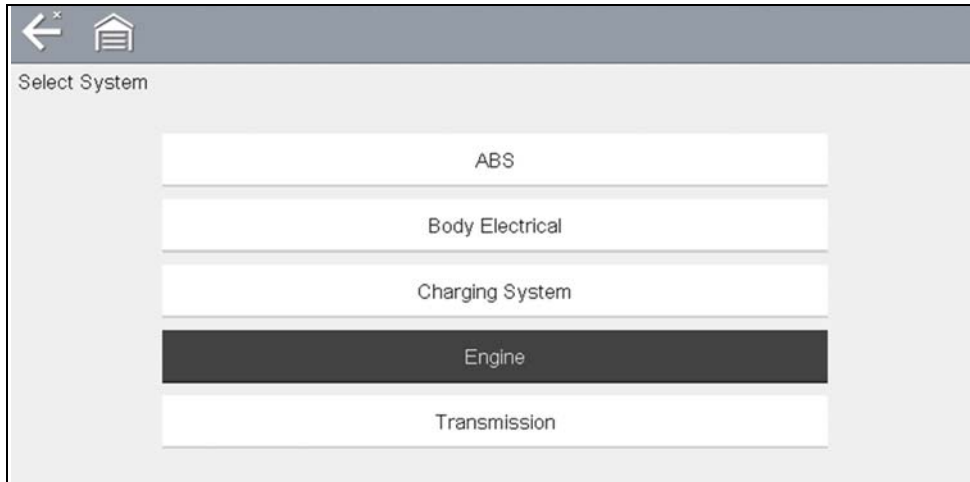

Figure 11-3 Systems Menu
1. Select a system from the list (Figure 11-3).